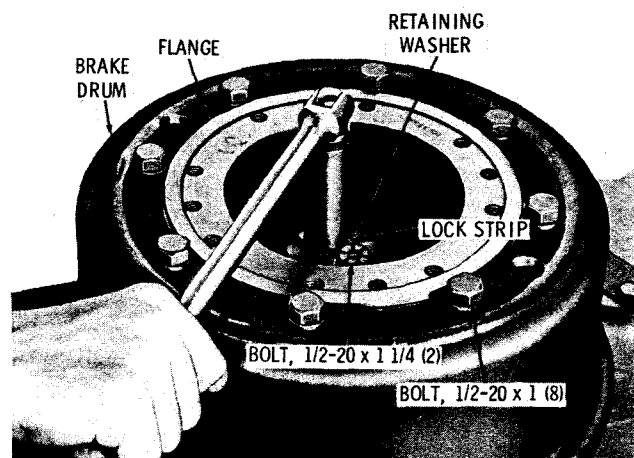

Fig. 7-6. Installing rear output flange bolts
(17) Install the brake drum onto the output flange (fig. 7-6). Install eight 1/2-20 x 1-inch bolts, with lock washers, to retain the drum. Tighten the bolts to 83 to 100 pound feet torque.
(18) Install the output flange and brake drum (fig. 7-6).